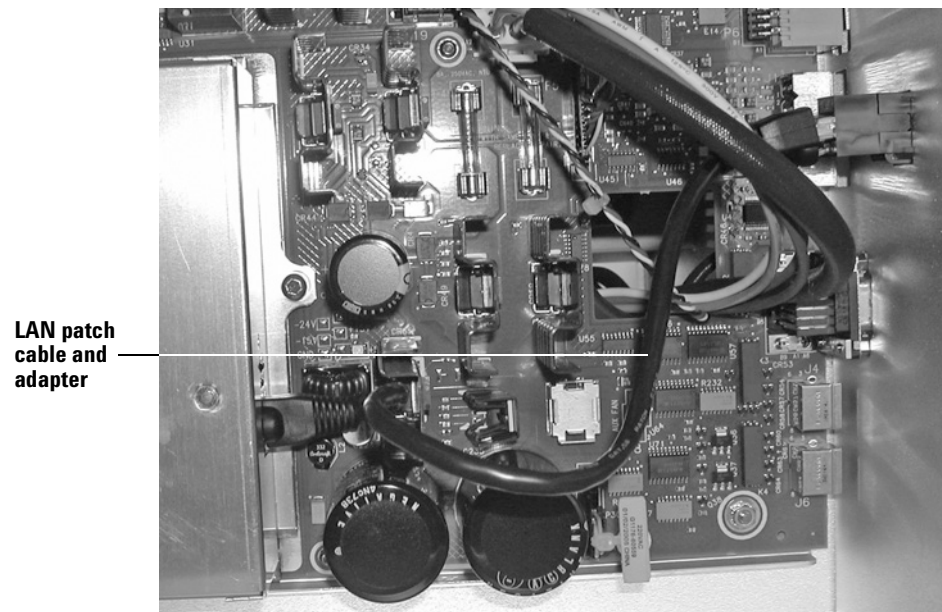

Figure 12 LAN patch cable and adapter to be routed to the GC back panel
- 1 Route the LAN “patch cable” with its ‘female-female’ LAN adapter from the MIO cover and LAN board assembly to the hole in the back panel (Figure 12).